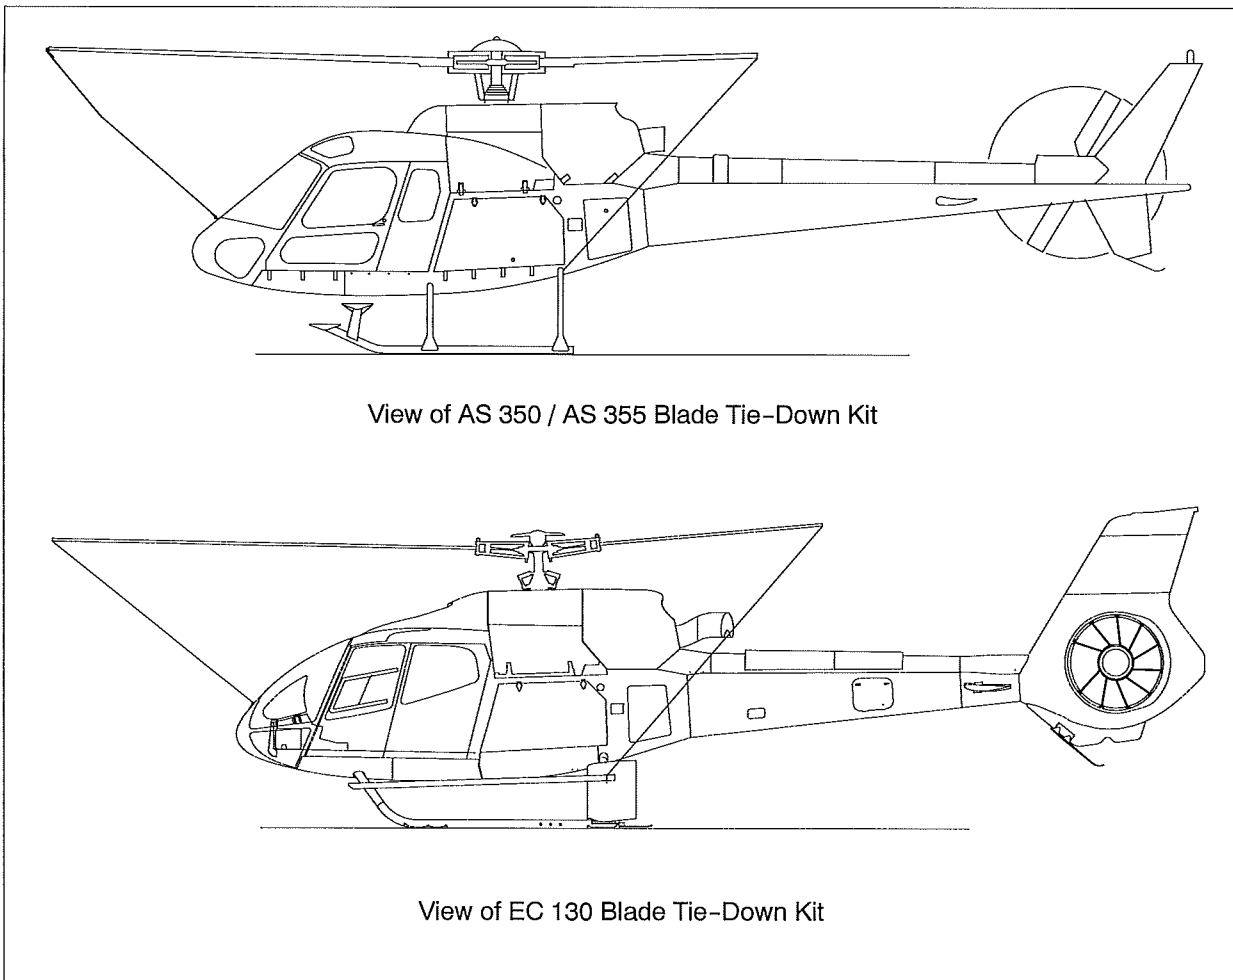

Figure 1 General Layout
- A. The Blade Tie-Down Kit consists of fixed and detachable provisions. A detachable rod assembly is secured to each modified blade tracking finger with an attached rope securing the opposite end to the aircraft by means of a snap hook. Forward and aft brackets are mounted to the aircraft providing secure attachment locations for the snap hook. Refer to Figure 1 for General Layout.